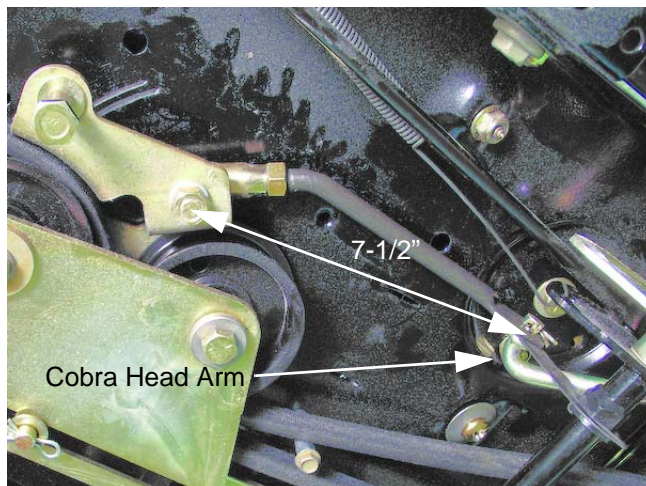

Figure 5.18
6. Measure the length of the adjustment link to see if it is at the factory specification, 7-1/2". See Figure 5.18.